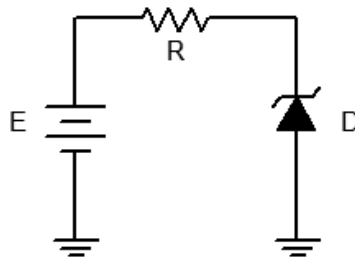

Figure 1
1. Consider the circuit of Figure 1 using $R = 2.2 \text{ k}\Omega$. For any positive value of E the Zener is reverse biased. Until the Zener potential is reached, the diode resistance is effectively infinite and thus no current flows. In this case the voltage across R is zero due to Ohm's law. Consequently, all of E should appear across the Zener. Once the source exceeds the Zener voltage, the remainder of E (i.e. E minus the Zener potential) drops across R . Thus, as E increases, the circulating current increases but the voltage across the zener remains steady.
2. Build the circuit of Figure 1 using $R = 2.2 \text{ k}\Omega$. Set E to 0 volts and measure both the diode's voltage and current and record the results in Table 1. Repeat this process for the remaining source voltages listed.